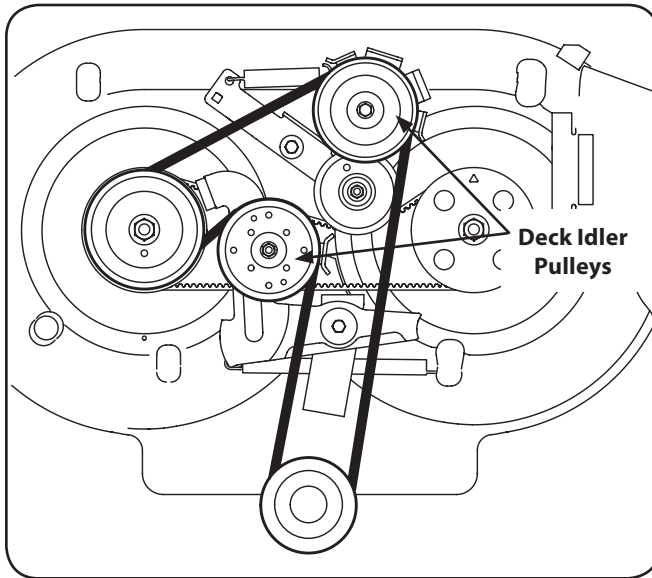

Figure 7-8
4. Loosen, but not remove, the nut and bolt which secures each deck idler pulley. See Fig. 7-8.
6. Route the new belt as illustrated in Fig. 7-8